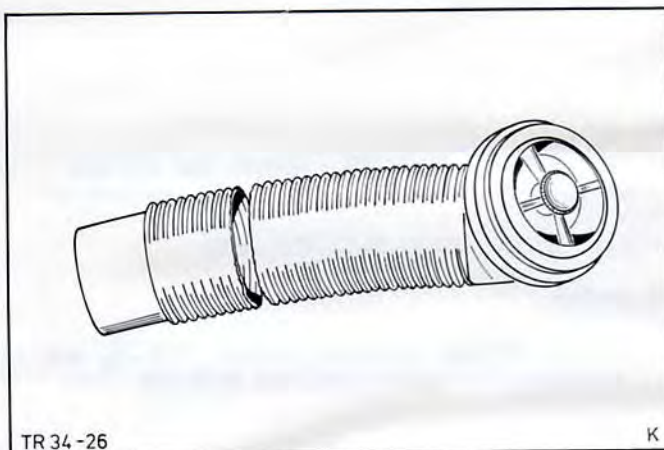

Fig.35. Withdraw vent and hose complete.
2. Withdraw vent and hose complete underneath the instrument panel, Fig.35, and pull the vent off the hose.